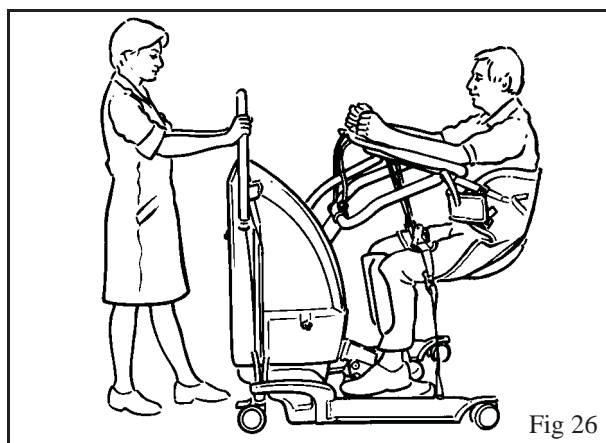

Fig 26
12. Release the chassis brakes and close the chassis legs, then transport the patient to desired position. (See Fig 26)